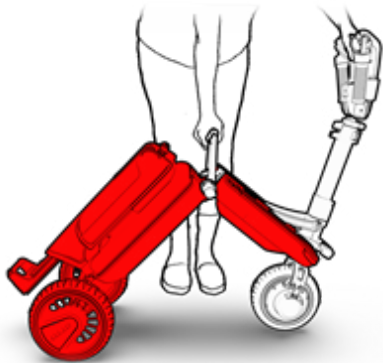

Figure 9
- Using the main handle, pull the main body away from the rod, thus rolling the rear wheels away from the front wheel (see Figure 9).